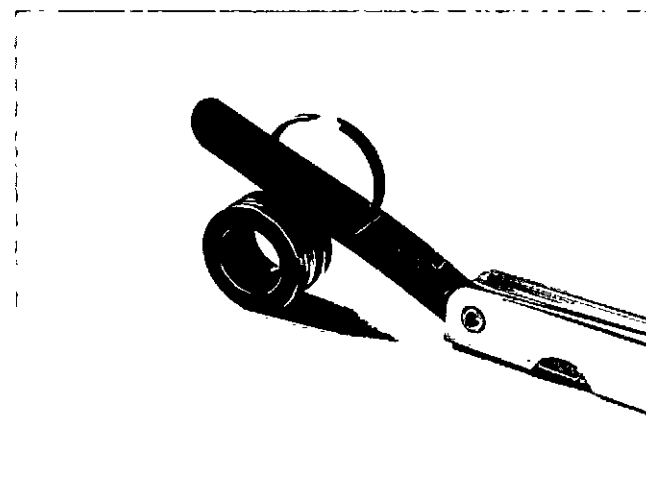

Fig. 4-19, (T465071). Inspect the sleeve
#### 6. Oil Seal Sleeve (11), Fig. 4-19.
- b. Insert the new oil control ring (12) into the groove as shown. If the clearance exceeds .009, discard the sleeve.